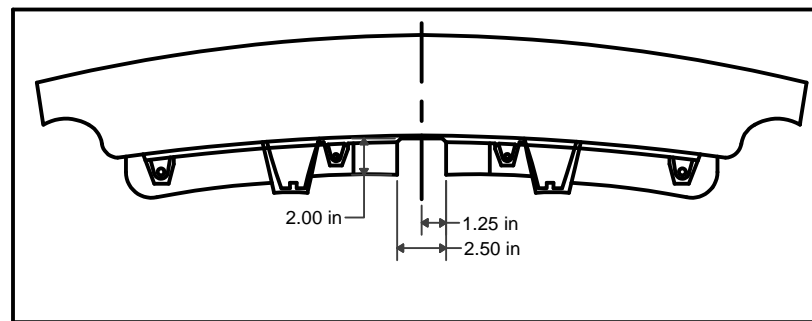

FIGURE 7
9. Using a rotary tool, carefully cut out the fascia on the bottom inside fascia. Locate the bottom center of the fascia and trim as shown. See Figure 7 for trim dimensions. Note: Area marked on fascia is trim outline for factory Volvo hitch if shown. Note: trim dimensions are approximate. Confirm fit prior to trimming.